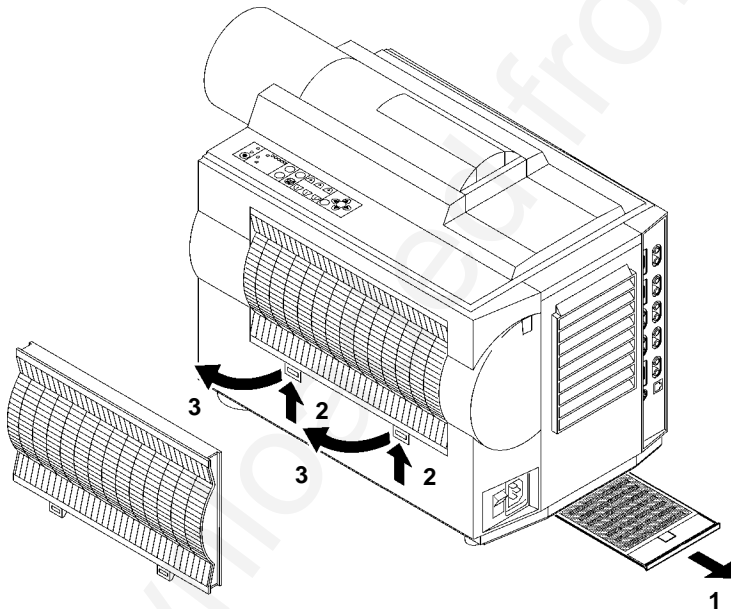

Figure 7-2. Air Filters
The bottom air filter (Figure 7-2) is located underneath the projector and is easily removed (1) by sliding it out like a center desk drawer.
The side air filter (Figure 7-2) is located on the control panel side of the projector and is easily removed by pressing the release tabs (2) in and lifting the bottom edge of the panel up (3) and away from the body of the projector. This will expose the side air filter inside the projector. Raise the plastic retaining frame (4) and carefully take out the air filter (5).
Carefully insert the side air filter and lower the retaining frame to secure it. Replace the side panel and press down on the bottom edge until the tabs lock it into position (Figure 7-2).